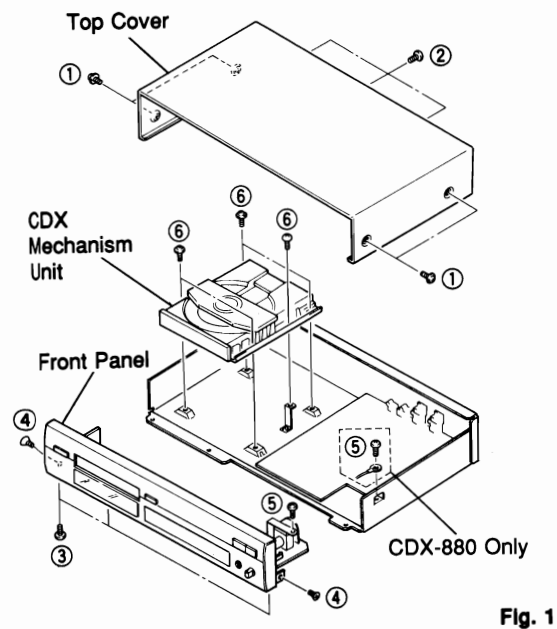

Fig. 1
- a. Remove 4 screws (①) and 3 screws (②) in Fig. 1.
- b. Remove 3 screws (③), 2 screws (④) and 2 screw (⑤) in Fig. 1.
- b. Remove 5 screws (⑥) in Fig. 1.